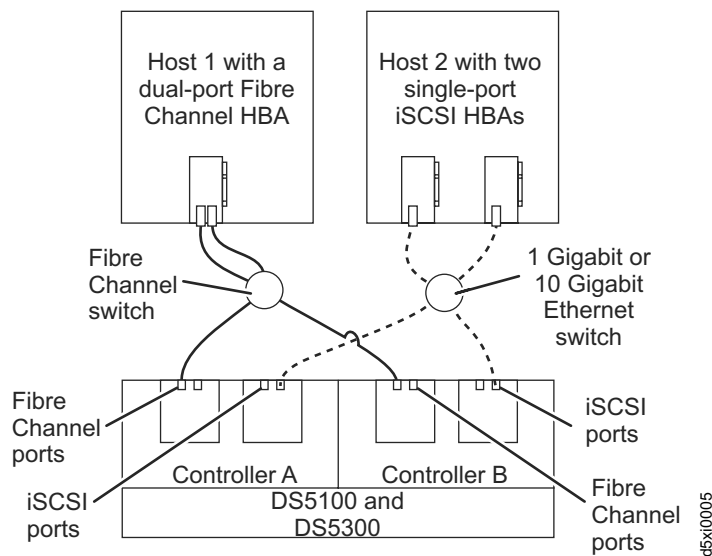

Figure 98. Example of iSCSI and Fibre Channel hosts, multiple-port configuration
- iSCSI and Fibre Channel hosts, multiple-port configuration, as shown in Figure 98 on page 145
Figure 98 shows iSCSI and Fibre Channel hosts in a multiple-port configuration.